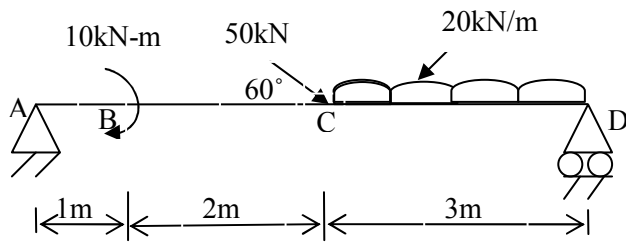

Fig. 4 Q. 5 (a)
- Q.5 (a)** Draw shear force and bending moment diagrams for the beam shown in Fig.4. 07